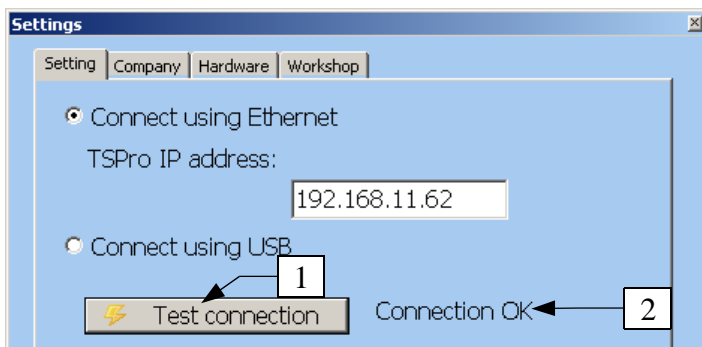

Figure 14.7
4. *Test:* If all network parameters are set and the computer is connected to the TSPro via a crossover cable we can perform a connection test. If a sign "Connection OK" (Figure 14.7 - 2) appears after you press the
Test connection button (Figure 14.7 - 1), all parameters are set correctly.